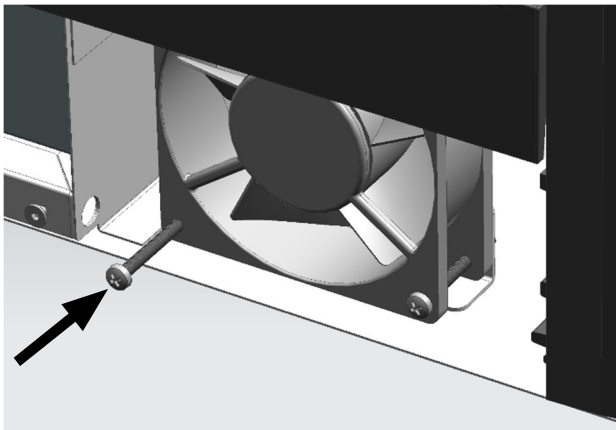

Fig.2
2. Loosen the screws that hold the fans (Fig. 2)